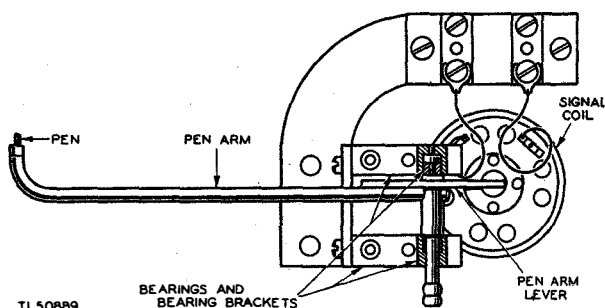

Figure 65. Sketch showing top view of pen and signal coil.
b. **Signal Coil (figs. 65, 66 and 74).** (1) The signal coil assembly consists of a pen and pen arm, a trunnion shaft, a signal coil, a pen arm lever, a coil lever arm, bearings, bearing brackets, and a coil connection block assembly.
(2) The signal coil is of the proper diameter to give a working clearance in the circular opening of the coil pot